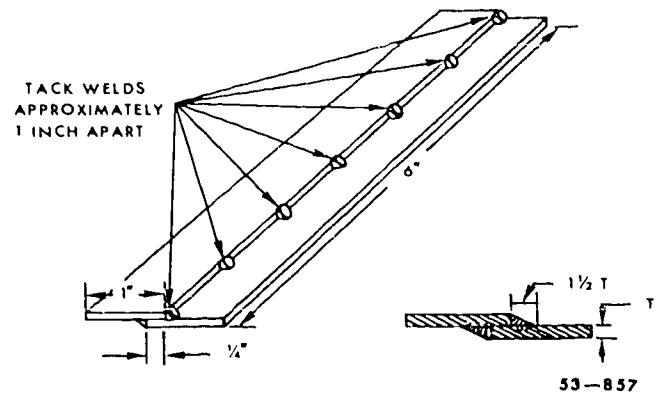

Figure 2-29. Welding lap joints.
**Setup and tack welding.** For setup and tack welding, fit the edge of the lap sheet closely to the surface of the other sheet. Spacing causes the edge of the lap sheet to heat more rapidly, making welding more difficult. To prevent the edges from separating during welding, the tack welds must be rigid and spaced closely along the entire joint, insuring a close fitup after tacking. Proper tack welding reduces warping because of the high coefficient of expansion in the stainless steel. Figure 2-29 illustrates a properly tack-welded lap joint with the dimensions and spacing. Space the tack welds no more than 1 inch apart for best results. They must be rigid, yet small, to permit easy fusion with the weld.